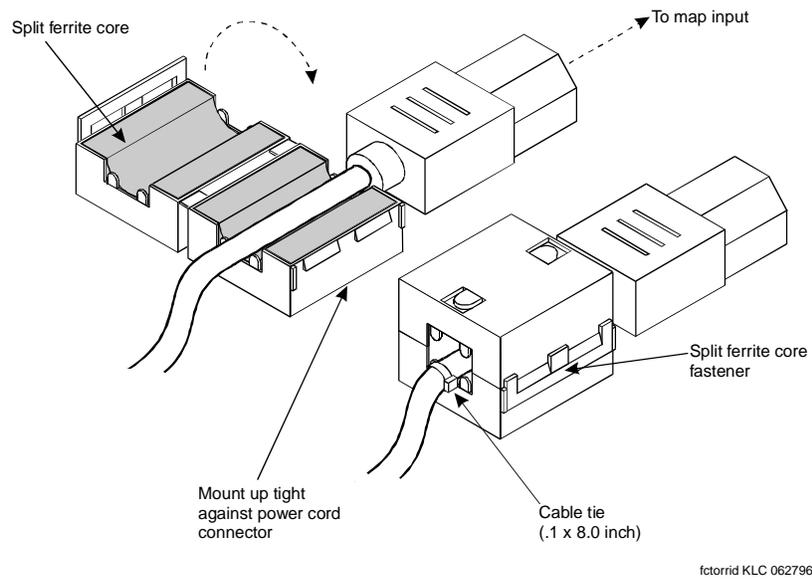

Figure 7-3. Example Ferrite (Type B) Installation
2. Place the cord or cable in the groove inside the ferrite. (Figure 7-3)